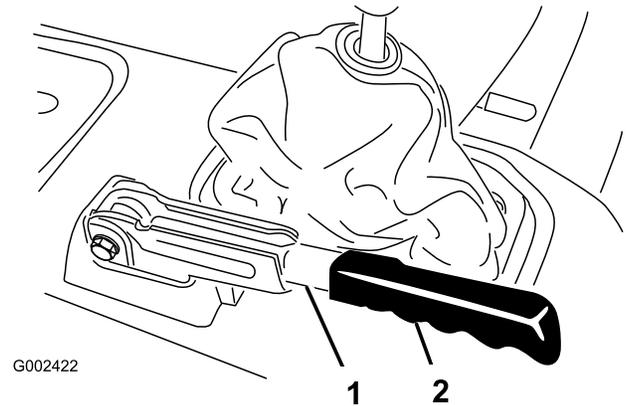

Figure 49
1. Remove the rubber grip from the parking brake lever (Figure 49).